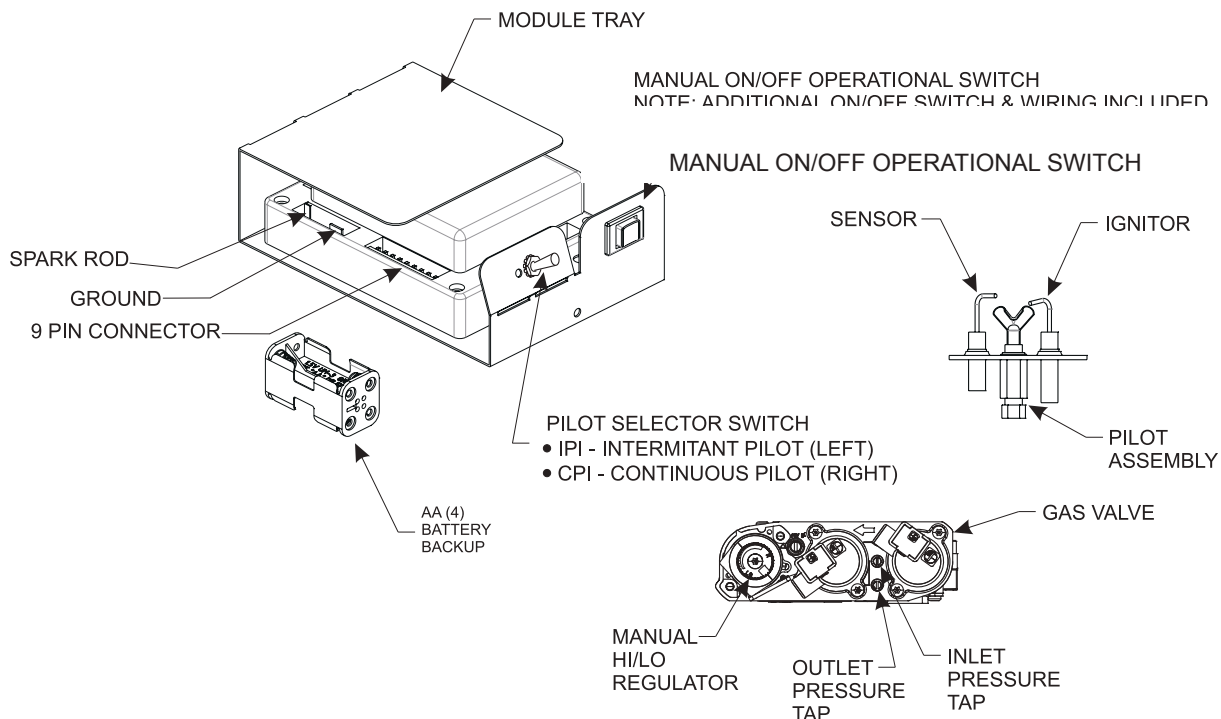

Figure 76
**NOTICE:** A small toggle switch is located on the front of the module tray that is used to switch from IPI (left) to the CPI (right). See Figure 76.
3. The gas valve has inlet and outlet pressure taps as shown in Figure 76. Refer to page 13 for gas pressure requirements.
To connect the remote receiver to the fireplace, first disconnect the ON/OFF switch wires from the white and green wire connectors and connect the wires from the remote receiver to the green and white wire connectors. See Figure 76. Follow the instructions included with the remote control for programming and other operational information.